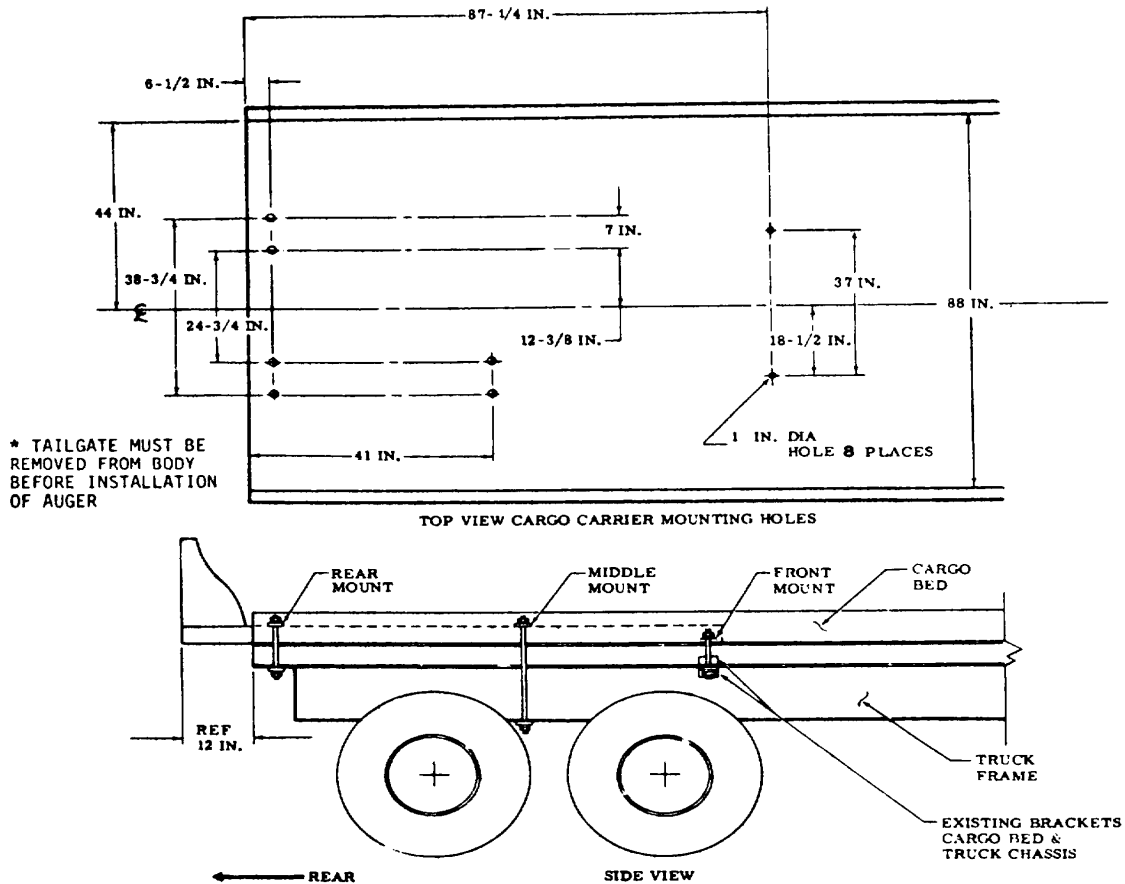
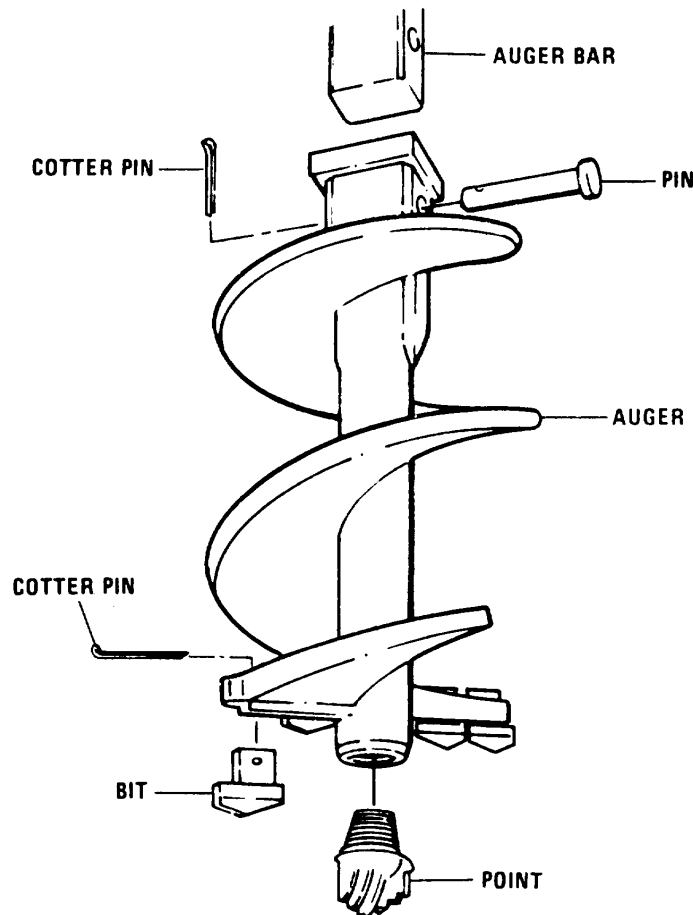

Figure 2-1. Auger assembly base pan.
Figure 2-2. Auger. bits, and point, removal and installation
c. Slowly lower the auger to the carrier and mount as shown in figure 2-1.
(1) If the earth auger is to be moved only a short distance, it will be moved on its carrier.
(2) Refer to figure 2-2 and remove the auger from the auger shaft
(3) Stow the auger, all equipment and tools on the carrier.
(4) Move the unit to the new worksite.
(1) Refer to figure 2-2 and remove the auger from the auger shaft
(2) Drain the auger engine fuel tank.
(3) Refer to figure 2-1 and remove the front, center, and rear mounting hardware securing the auger assembly to the truck frame.
(4) Use a suitable lifting device with at least 15,000 pounds capacity and lift the auger assembly from the truck frame.
(5) Refer to TM 38-230-2 and prepare the auger assembly for shipment to the new worksite.